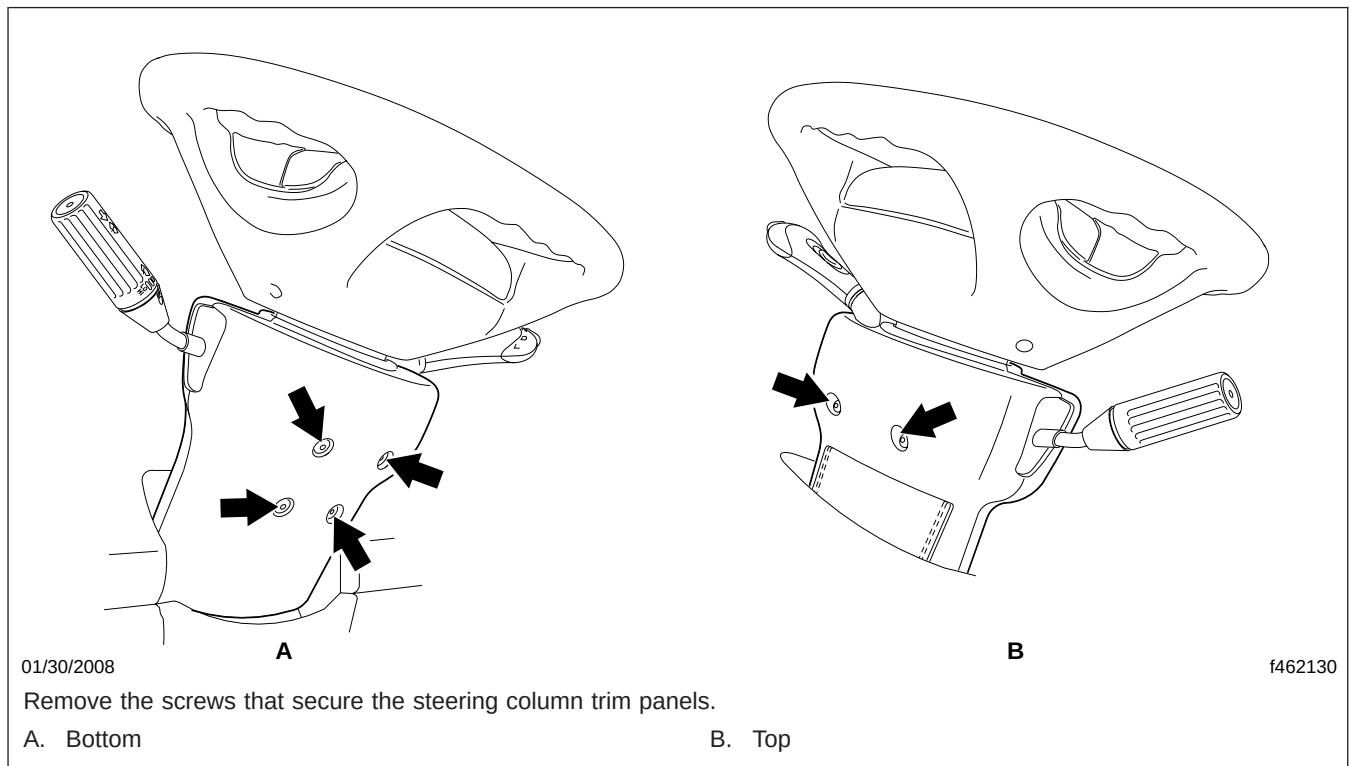

Fig. 1, Steering Column Screws
2. Remove the six screws that secure the steering column panels (see Fig. 1), then separate the upper and lower panels to access the shift control unit.